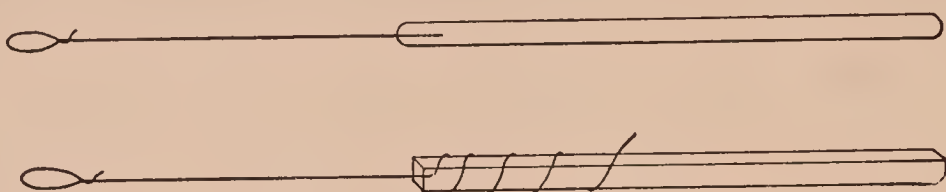

FIG. 22. — Test wires — platinum (upper), nichrome (lower)
(1) Moisten the end of a glass rod, touch the residue with it, and then draw this end across a piece of moistened red litmus paper. Observe the change in color of the litmus; this change is caused by hydroxides — sodium hydroxide in this case.
(2) Moisten the looped end of a clean test wire (Fig. 22), touch the residue with it, and hold the end of the wire in the